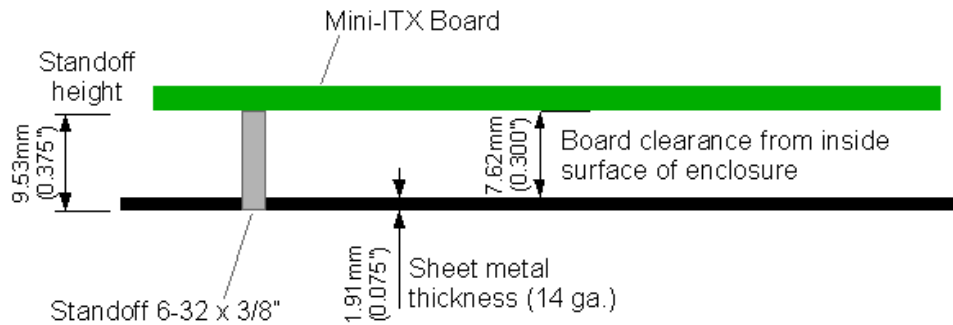

Figure 3 – Minimum offsets from bottom panel of an enclosure.
Use standoffs to raise the board above the floor of the enclosure to avoid contact of parts on the underside with the metal casing (see Figure 3 below). Standard motherboard mounting holes accept a 6-32 thread size. PEM style self clinching standoffs are usually the most convenient way to achieve this. A **3/8” (9.53mm) standoff** should be suitable for most boards.
**PCI Slots** The standard slot-style cutouts for PCI card access are shown in Figures 9 and 10. Adjust vertical and horizontal offsets as per I/O area cutouts. If you are not anticipating using all the slots, you can either omit cutouts as required, or specify 'knockouts' which refers to cutting almost all the way around the perimeters of the cutouts, but leaving several very small metal 'bridges' that keep the center in place until the user decides to physically remove it. Use caution with knockouts if using cold rolled steel in damp or corrosive environments, as small bare metal patches will be left once the centers are removed. And finally, a last detail that should be considered is that, if PCI cards will be used, a flange should be designed on the top edge of the back panel to allow PCI card brackets to be fastened. Screw holes should be placed at the dimensions shown for the screw opening on the top of the PCI card brackets, as shown in Figures 3 and 4. The holes should be drawn as diameter 0.1065" (2.71mm), and noted as "tap with 6-32 thread". There is typically insufficient space to use a self-clinching PEM nut here. You may also wish to add cosmetic details to the cover to hide this flange.